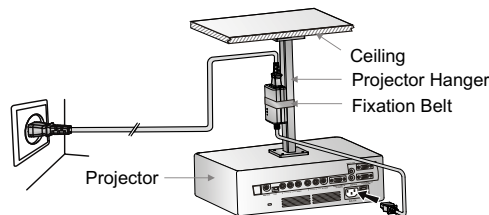

Figure 5
5. Use fixation belt to fix synchronization wireless emitter on projector hanger frame. Put output insert into AC IN hole of projector ( Figure 5 ).